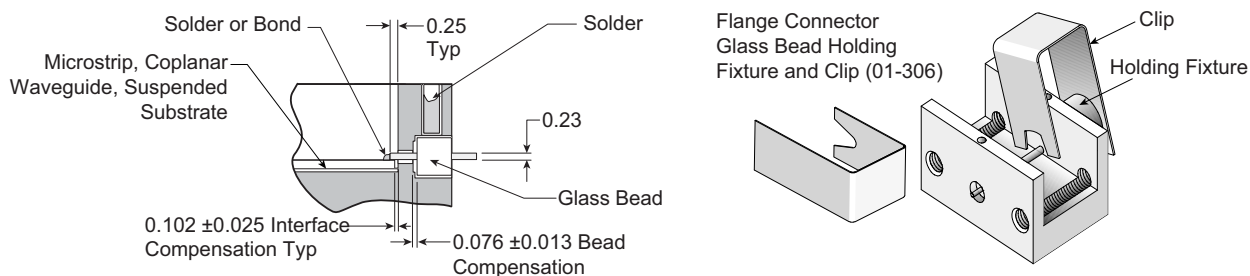

Figure 6-2. V103M-R Glass Bead Assembly
- Install the microstrip into the housing (see Figure 6-2 for dimensional tolerances around the glass bead).
- Secure the holding fixture in place by using the spring clip furnished with the fixture (Figure 6-2). Position the spring clip so as not to obstruct the solder access hole in the housing. Ensure that the glass bead is centered and that it is making good contact with the microstrip.